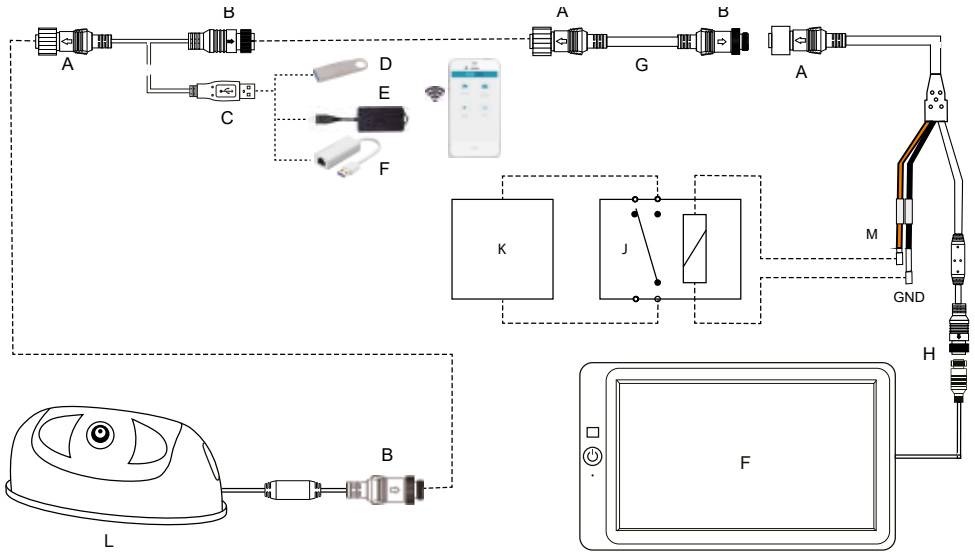

Abb. 1: Connection of the WiFi module for configuration of the camera and connection of the alarm output
- **Adapter 1:** USB adapter with the WiFi module (Fig.1)
1. Install the WiFi module as shown on page 10 Fig.1.